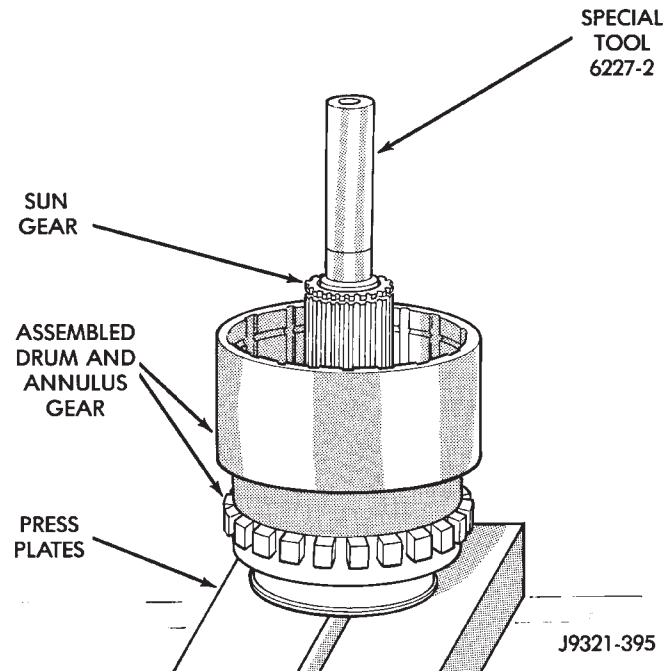

Fig. 230 Alignment Tool Installation
(15) Mount assembled output shaft, annulus gear, and clutch drum in shop press. Direct clutch spring, hub and clutch pack are easier to install with assembly mounted in press.
(16) Align splines in hubs of planetary gear and overrunning clutch with Alignment tool 6227-2 (Fig. 230). Insert tool through sun gear and into splines of both hubs. Be sure alignment tool is fully seated before proceeding.